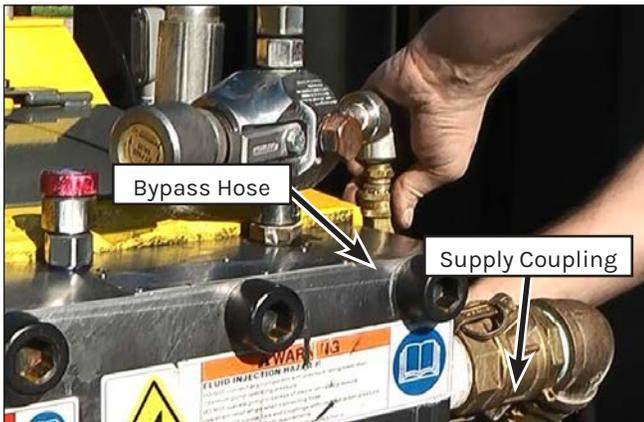

Figure 99: Line Removal.
3. Disconnect the bypass drain hose and the supply coupling from the manifold (Figure 99).